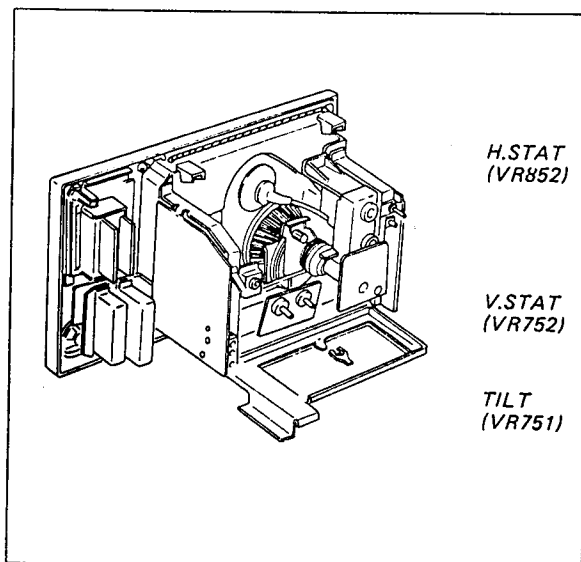
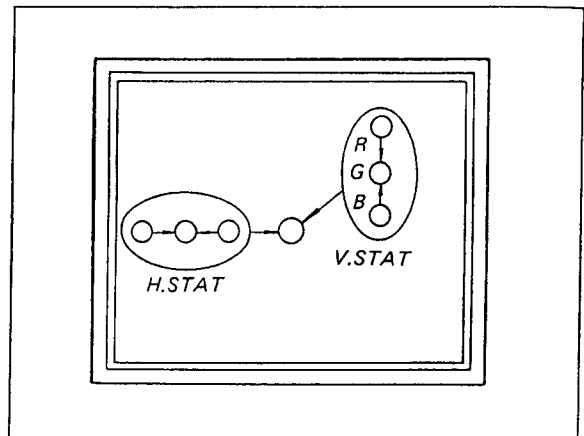
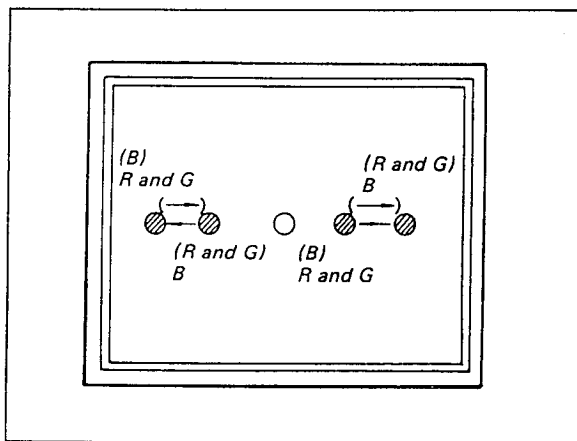

Fig. 3-6. Adjustable parts location
Fig. 3-7. Horizontal and vertical static convergence adjustment
Fig. 3-9. Left and Right convergence adjustment
1. Adjust VR852 (H. STAT, See Fig. 3-6) to converge the dots horizontally at the centre of the screen as shown in Fig. 3-7.
1. Adjust VR752 (V. STAT, See Fig. 3-6) to converge the dots vertically as shown in Fig. 3-7.
1. Adjust VR751 (TILT, See Fig. 3-6) for best convergence at both sides as shown in Fig. 3-9. If side misconvergence persists, proceed to Step 2.